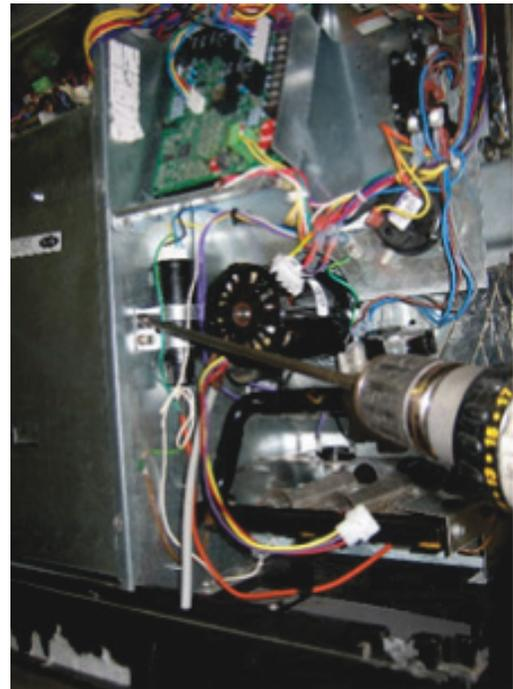

Fig. 32 – Removing Mounting Screw from Gas Manifold ^{A210076}
9. For all units (except Ultra Low NOx [ULN] units) Remove mounting screw from gas manifold and pull Burner Assembly forward to clear Heat Shield (See Fig. 32). ULN units must not have the burner box removed from the heat exchanger panel.